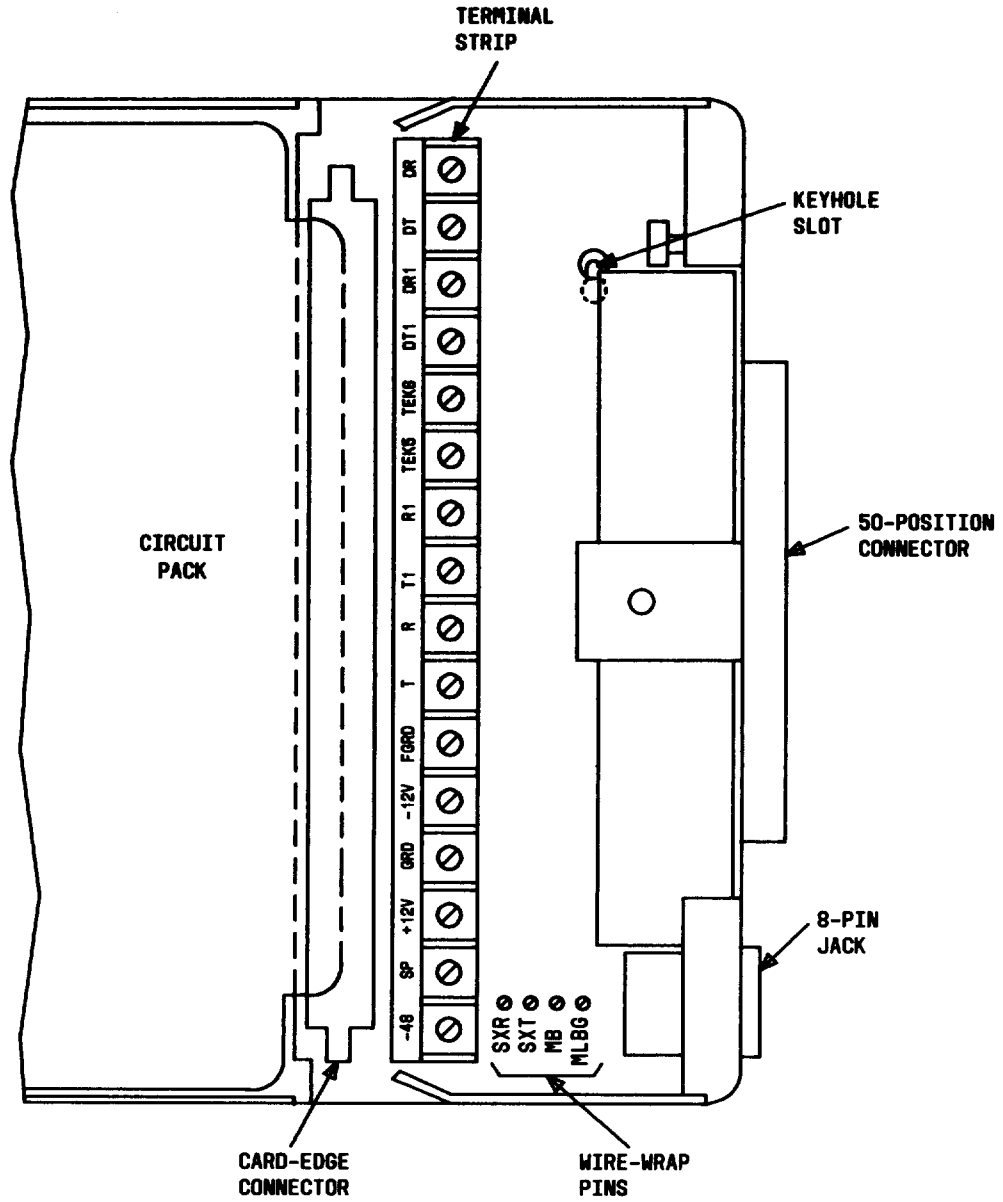

Fig. 2—146B Mounting Connectors
**4.05** Connect the network interface leads to the unit using the appropriate terminals of the terminal strip and wire wrap pins shown in Fig. 2. Refer to Table B for interface lead functions, designations, and connector appearances.